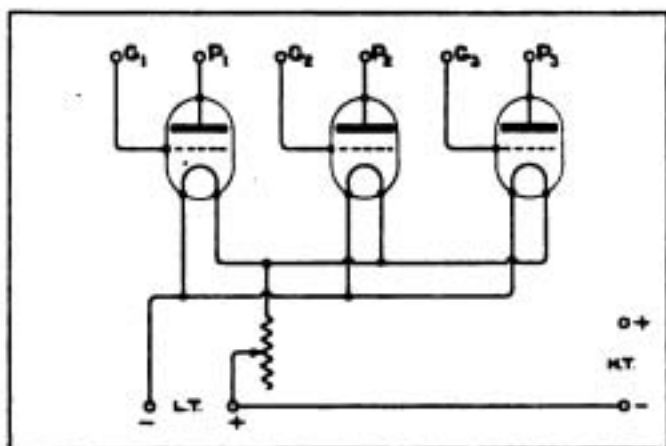

Fig. 2.
- (1) Not much for wireless work.
- (2) Owing to the contact differences of potential between each plate and the electrolyte.
- (3) See diagram Fig. 2.
V.D.B. (Reading) asks (1) The wavelength of a small amateur aerial. (2) If it can be used for receiving PCGG. (3) How the wavelength can be increased. (4) For a three-valve circuit for the reception of PCGG.
(1) Approximately 50 metres.
(2) Somewhat small, but will give results with a good amplifier.
(3) By the addition of a loading coil or A.T.I.
(4) The circuit of Fig. 2, page 396, September 17th, should be about the best of the type you suggest. In this circuit the reaction coil should couple with the closed circuit inductance only, and not with the A.T.I. Coils should be wound single layer on cylindrical formers.
S.J.D. (Hockley) has a set which he says will only tune to 65 ms. He asks (1) For instructions for increasing the wavelength. (2) What instruments he will require for a two-valve amplifier.